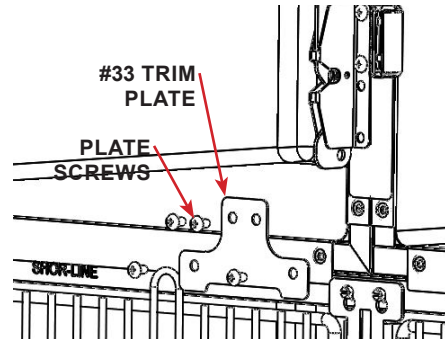

FIGURE 2.41 - Trim Plate #33
STEP 18: Remove the bottom trim plate screws (4 each) from both cages to be attached. See FIGURE 2.41
STEP 19: Install, but do NOT fully tighten screws, trim plate (#33) using the screws removed in the previous step. Trim plate (#33) is notched to compensate for a double door latch assembly on the cage below. See FIGURE 2.41